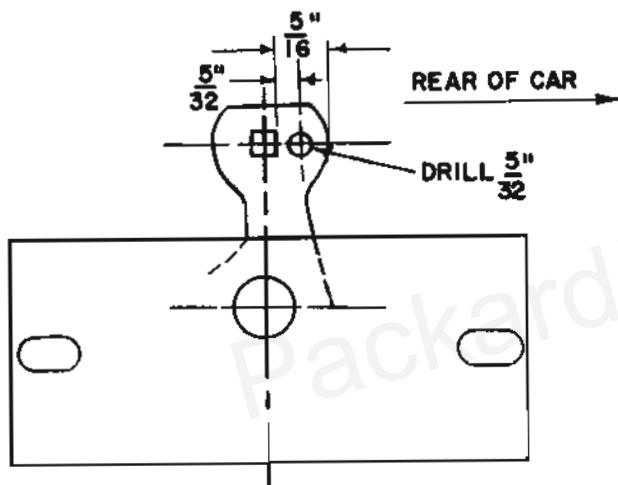

Fig. 3
3. Relocate the remote control wire hole $\frac{5}{32}$ " toward the rear of the remote control (see Fig. 3).